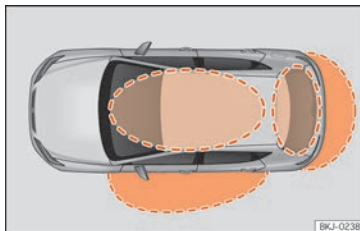

Fig. 137 Keyless Access locking and ignition system: In the proximity of the car.
Keyless Access is a key-free locking and ignition system to unlock and lock the vehicle without actively using its key. To do this, all that is required is to have a valid vehicle key in the detection area where you are attempting to access the vehicle » **Fig. 137** and to touch one of the sensor surfaces on the door handles » **Fig. 138** » ❶.
If a valid key is located in the proximity of the car » **Fig. 137**, the Keyless Access locking and starting system gives the key entry as soon as one of the sensor surfaces on the driver door handle is touched. The following features are then available without having to use the vehicle key actively:
When the vehicle is locked, the rear lid automatically unlocks on opening if there is a valid vehicle key in the proximity » **Fig. 137**.